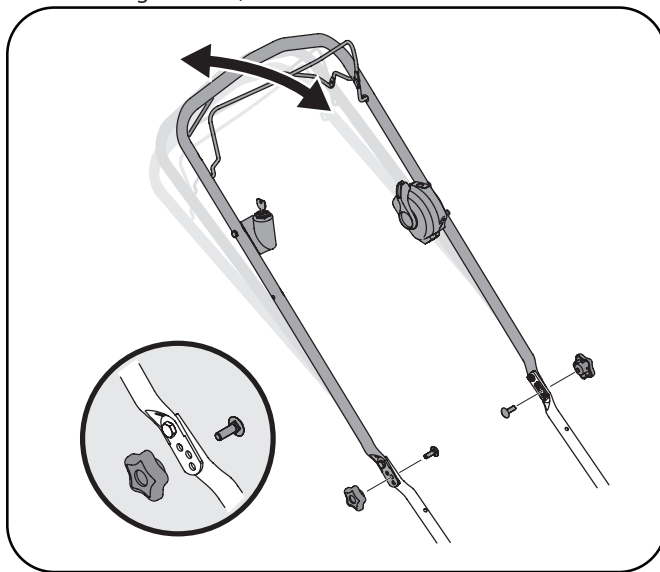

Figure 3-11
1. Remove knobs and carriage bolts from handle. See Fig. 3-11.
2. Position the handle in one of the three positions that is most comfortable. See Fig. 3-11 inset.